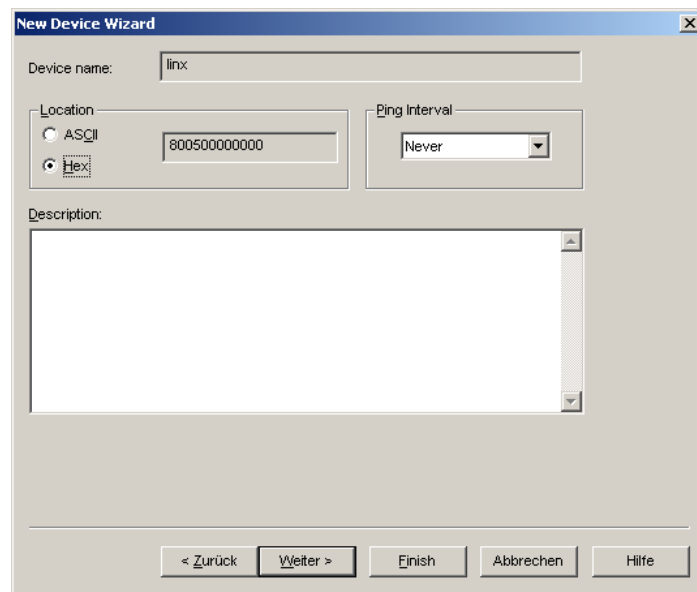

Figure 117: Leave defaults for Location.
5. The following dialog shown in Figure 117 appears, click **Next**.